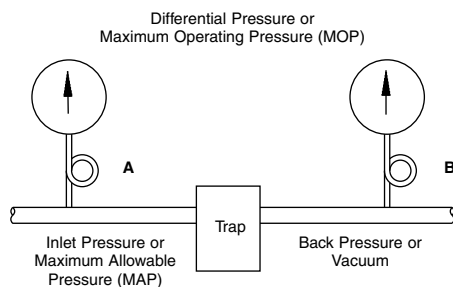

Figure LD-424-1. "A" minus "B" is Pressure Differential: If "B" is back pressure, subtract it from "A." If "B" is vacuum, add it to "A."
2. Pressure Differential. *Maximum differential* is the difference between main pressure, or the downstream pressure of a PRV, and return line pressure. See Fig. LD-424-1. The drain trap must be able to open against this pressure differential.
3. Maximum Allowable Pressure. The trap must be able to withstand the maximum allowable pressure of the system, or design pressure. It may not have to operate at this pressure, but it must be able to contain it. As an example, the maximum inlet pressure is 10 barg and the return line pressure is 1 barg. This results in a differential pressure of 9 bar; however, the trap must be able to withstand 10 barg maximum allowable pressure. See Fig. LD-424-1.